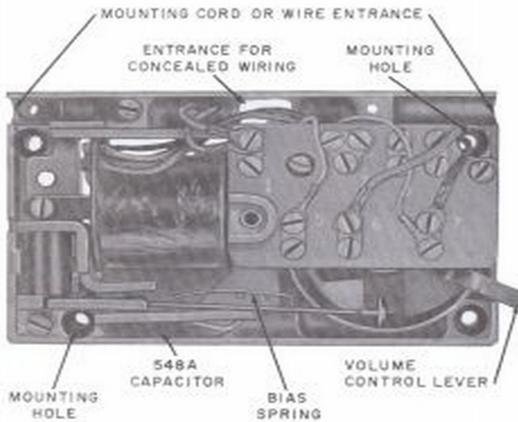

Fig. 2—E1C Ringer, Internal View
2.01 The E1-type ringer (Fig. 2 and 3) consists of a 7- or 10-terminal connecting block and a single-gong ringing mechanism in series with an 0.40 uf capacitor.
2.02 The E1-type ringer is equipped with a volume-control lever (Fig. 2). Volume is adjustable from off to loud. To adjust ringer to off position, refer to 3.05.